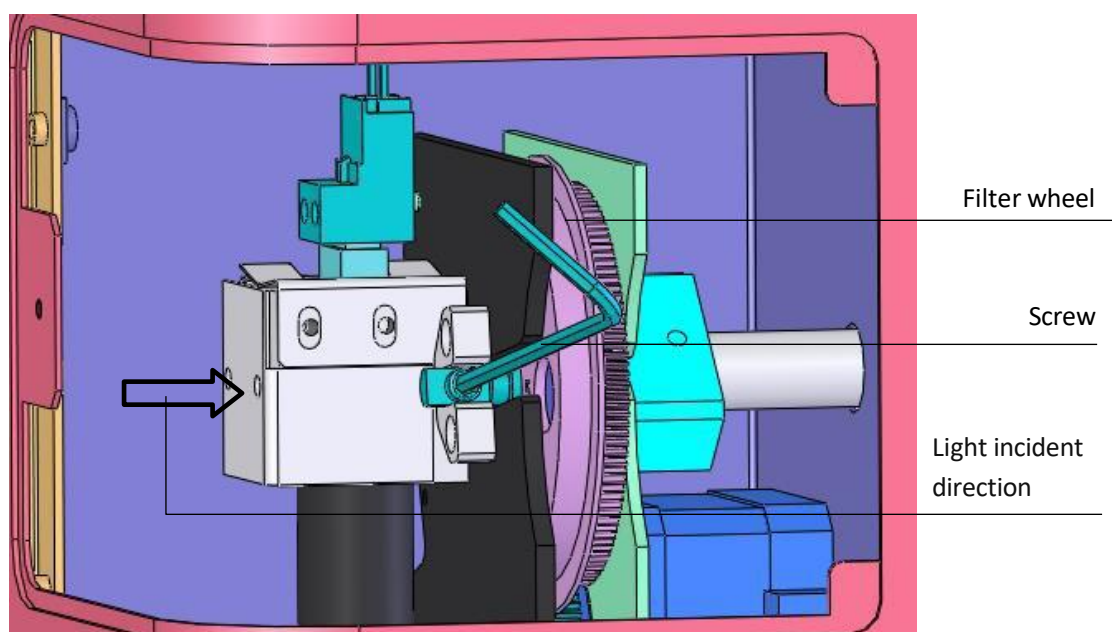

Fig. 55 Adding/Changing Optical Filter
- Loosen the knob to open the back door and remove the optical filter wheel using the included Allen key, (see Figure 55).